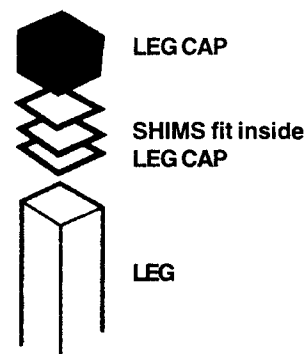

FIG. 8
14. Insert one ROD (item #24) into the PLASTIC ROD BEARING in the far corner hole on the left side of the CABINET. See Figure 8. Next, slide onto the ROD, one by one. **In this order, the following items (See Figure 9):** PLASTIC WASHER (item #28), RUBBER BUMPER (item #29), STEEL WASHER (item #30), PLASTIC WASHER, RED TEAM PLAYER (item #32) (**with back to goal**), RED TEAM PLAYER, continue with RED TEAM PLAYER, PLASTIC WASHER, STEEL WASHER, RUBBER BUMPER, and PLASTIC WASHER.
15. Insert RODS (item #25, #26 and #24) into the second, fourth and sixth holes respectively, **counting from the far left corner.** See Figure 8. Slide onto the ROD, one by one. **In this order (See Figure 9):** PLASTIC WASHER (item #28), RUBBER BUMPER (item #29) STEEL WASHER (item #30), PLASTIC WASHER (item #28), then (2) RED TEAM PLAYERS, on the second hole ROD (item #25)); (5) RED TEAM PLAYERS, on the fourth hole ROD (item #26); (3) RED TEAM PLAYERS, on the sixth hole ROD (item #24), (**all facing the same direction as the goalie**). Finish rods with PLASTIC WASHER (item #28), STEEL WASHER (item #30), RUBBER BUMPER (item #29), PLASTIC WASHER (item #28).